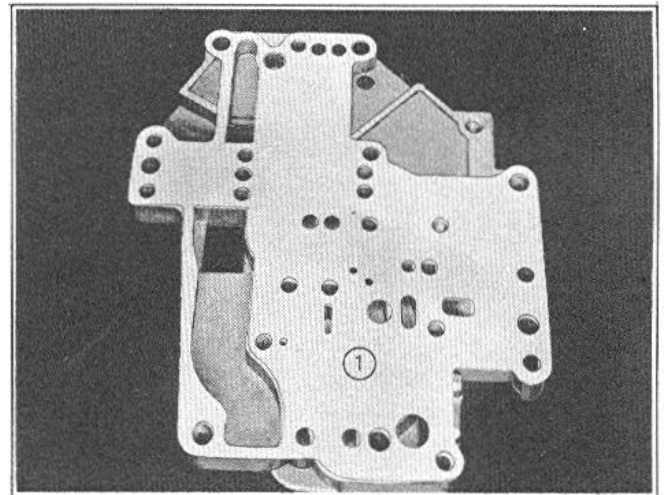
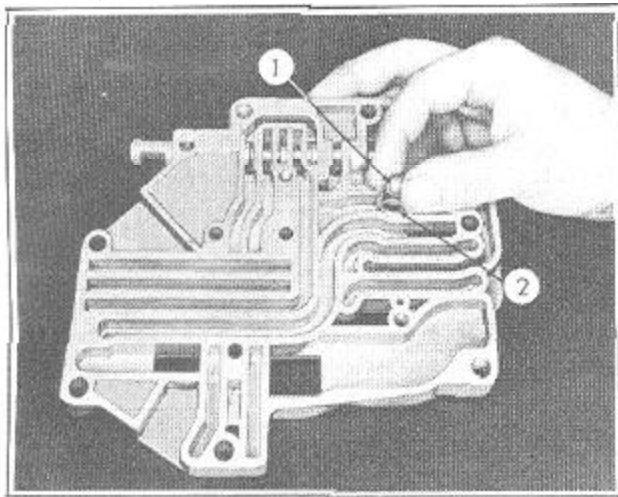
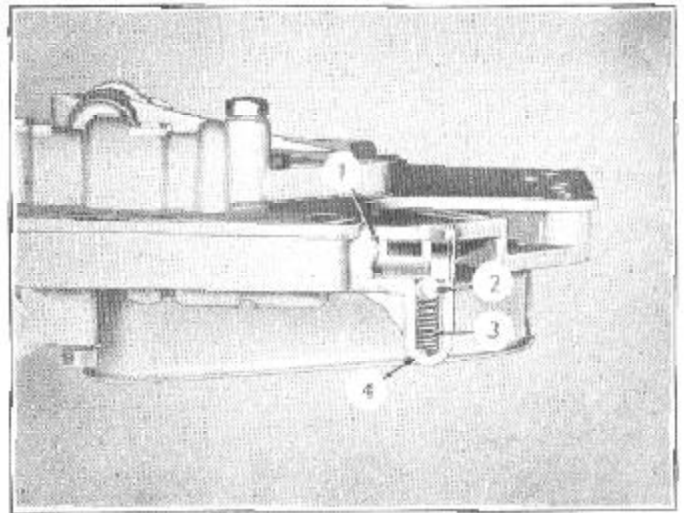
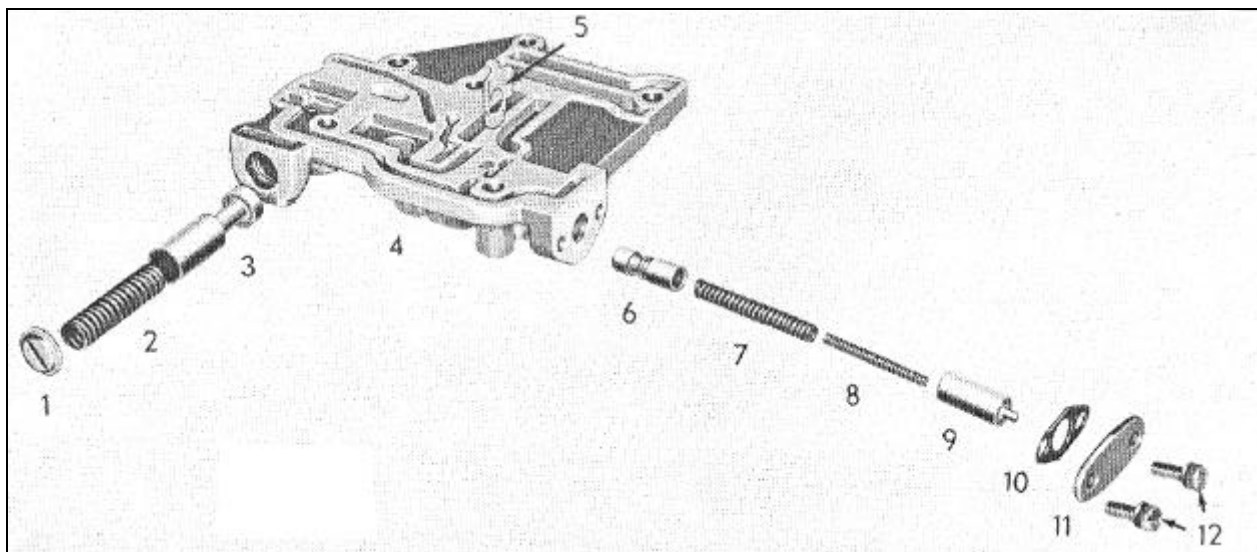

FIGURE 65
FIGURE 66
FIGURE 68
FIGURE 67
6. Remove the converter control valve body gasket (3) from the base plate (4).
7. Separate the base plate from the valve block manifold and remove the valve manifold gasket, Figure 65.
8. Remove front pump ball check (1), Figure 66.
10. Use the Valve Spring Unloader Tool J-4547 in the same manner as outlined under, "Front and Rear Pump Relief Valve Body Disassembly", Page 41; remove the reverse interlock valve spring retainer (1), Figure 67, and remove the reverse interlock valve spring (2) and valve piston (3).
11. Remove the converter valve cover plate screws (12), converter cover plate (11), gasket (10), compensating piston (9), springs (8) and (7) and converter valve.
12. Turn the selector valve (1), Figure 68, so that the milled slot is away from the selector valve detent ball (2) and spring.
4. Check the front pump ball check seat (2), Figure 66, and the rear pump check ball
2. Install the selector valve in the valve block manifold so that the end of the valve clears the opening in the detent housing. Make sure the valve notch is away from the detent housing, Figure 68. Install the detent spring (3), Figure 68, and detent ball (2) in the detent housing (4). While holding the detent ball down with a small screw driver, move the selector valve over the detent ball. Move the selector valve out until the detent ball locks up in the first groove in the valve, then turn the valve so that the milled slot is toward the valve block manifold.
3. Install the converter valve piston (6), Figure 67, stop (5), springs (7) and (8) and the compensator piston (9). Install a new gasket (10), cover plate (11) and attaching screws and lock washers (12).
4. Install the reverse interlock valve piston (3) and spring (2) in the converter body. Use the Valve Spring Unloader Tool J-4547 as outlined under "Front and Rear Pump Relief Valve Assembly", Page 42, and install the reverse interlock valve spring retainer.
6. Install the front pump ball check (1) in the valve manifold, Figure 66. Place the manifold plate gasket (1), Figure 65, on the valve manifold, making sure that all holes are aligned and install the base plate.